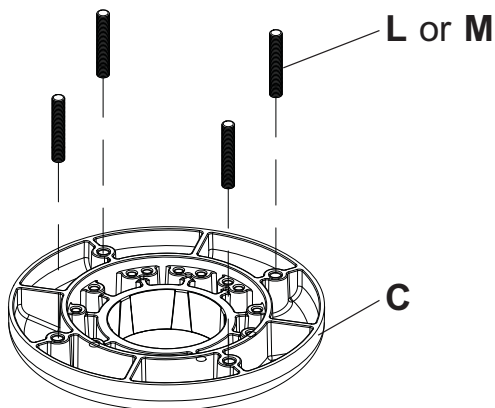

fig. 2.1
- 2 If the desk thickness is between 3/4" to 1" use 1/4-20 x 1.5" threaded rods (L). If the desk thickness is between 3/4" to 2-3/8" use 1/4-20 x 3" threaded rods (M). Turn base (C) upside down and insert four threaded rods (L or M) into base (C), as shown in figure 2.1.